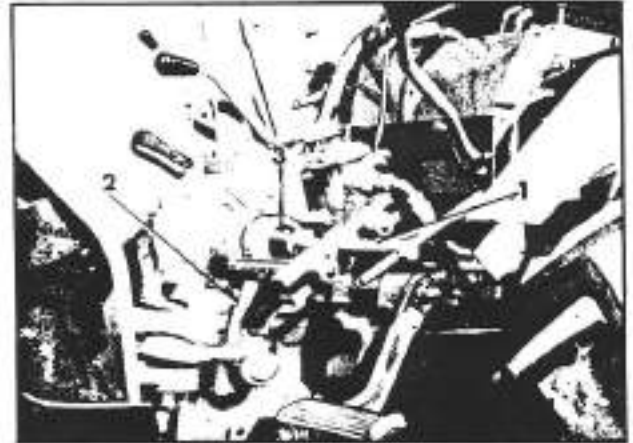

Fig. 3-63. Removal of the steering arm
- e. By means of a pulling tool (1; fig. 3-63) take the arm (2; fig. 3-63) off of the shaft (3; fig. 3-63) of the steering box.